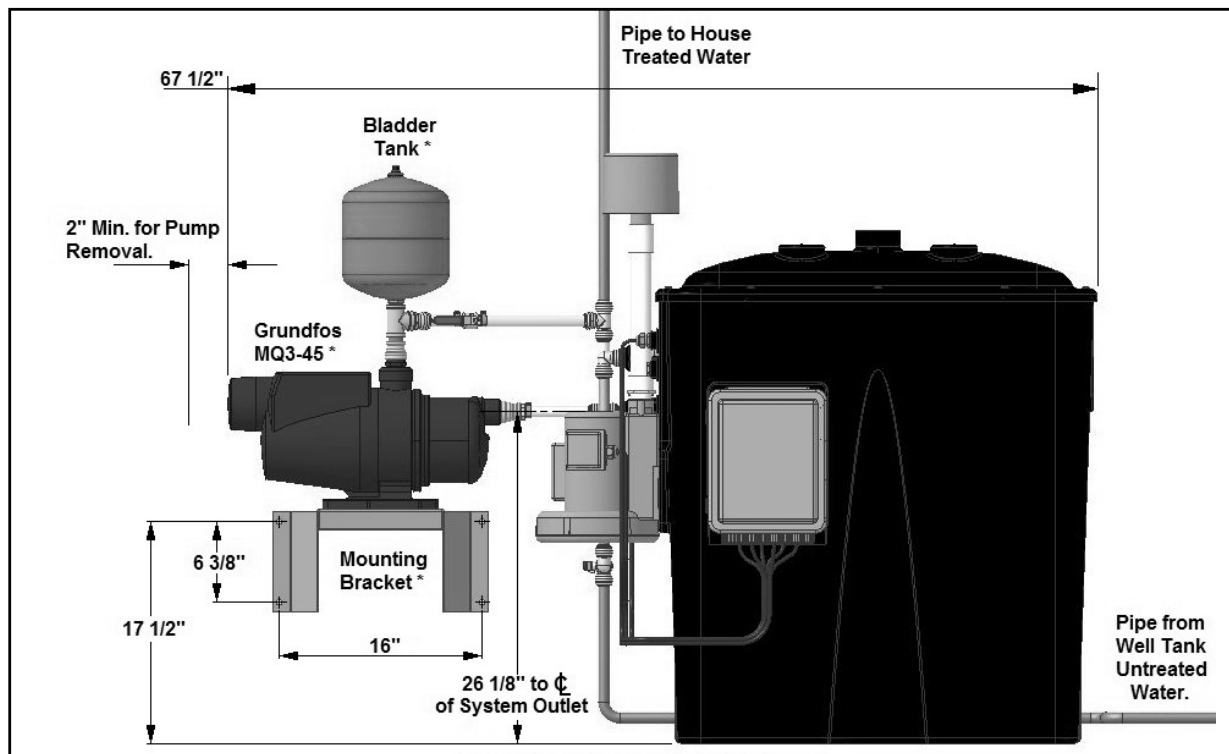

Figure 3
1. If using the Grundfos MQ3-45 Pump attach Mounting Bracket to wall as shown in Fig. 3 (page 8). Note bracket hole height is specific to the Grundfos MQ3-45. If using a different pump adjust bracket height as required to place pump suction pipe centerline at the system outlet centerline as specified in Fig. 3.